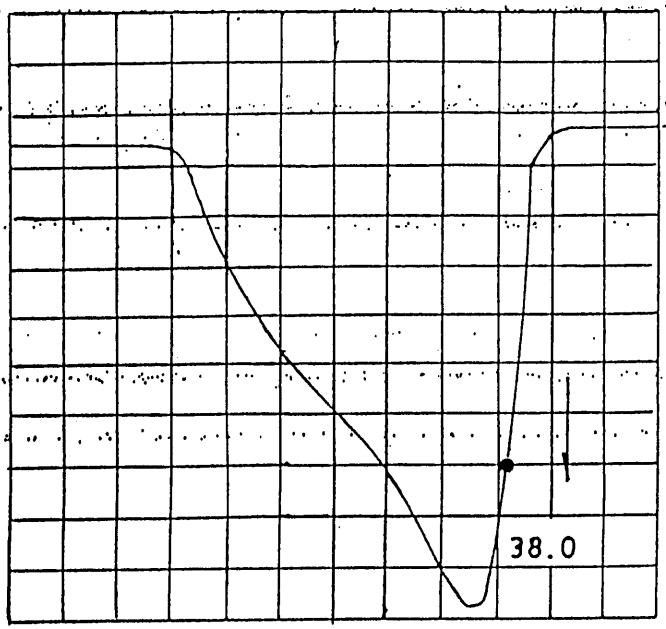

Fig . 2
B. Tank Coil Alignment Step (See Fig.2)
- (v) Turn T101 until the marker 38.0 MHz falls to the lowest point as Fig.2